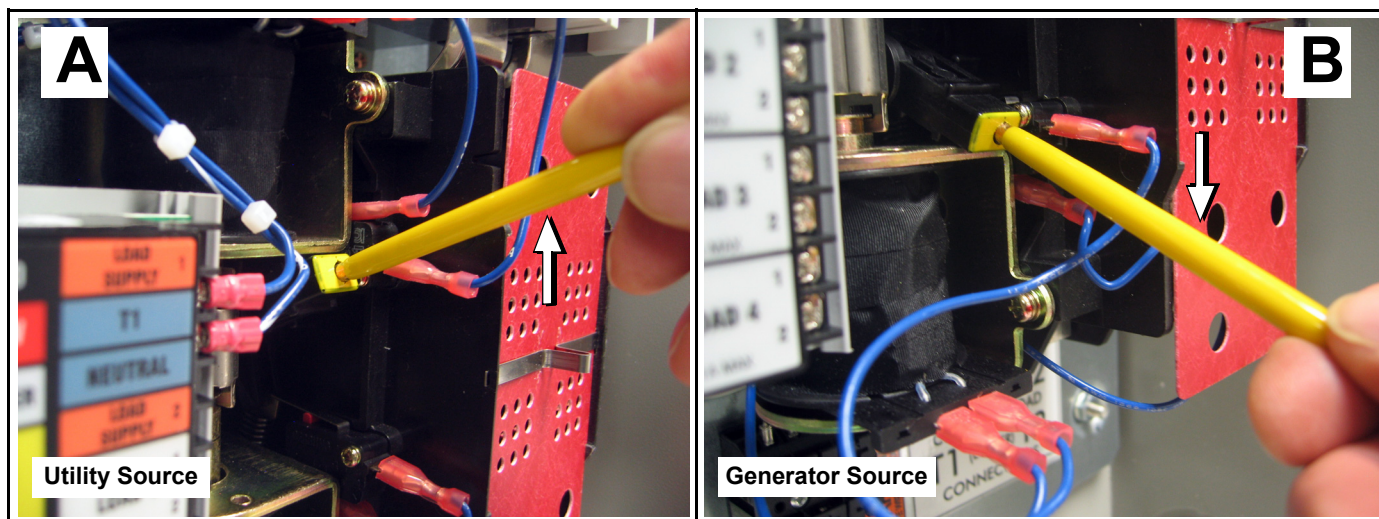

Figure 3-9. Exercise Transfer Switch
- CUSTOMER LOAD (T1 and T2) is connected to UTILITY SOURCE (N1 and N2). See A of Figure 3-9.
- CUSTOMER LOAD (T1 and T2) is connected to GENERATOR SOURCE (E1 and E2). See B of Figure 3-9.